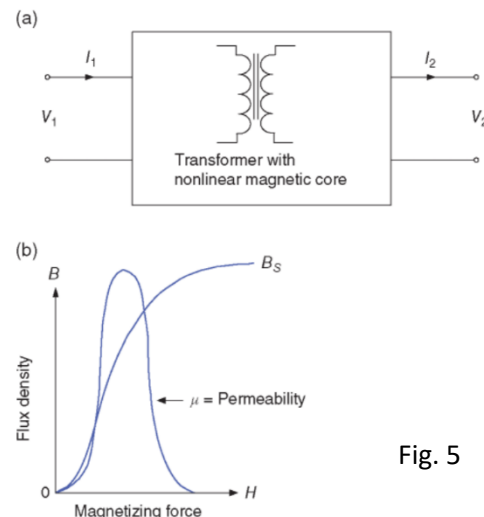

Fig. 5
- * Waveform of primary current (current to be sensed) and accuracy of measurement may get a bit distortion at secondary side due to the nature of nonlinearity of magnetic cores, especially when it is at two extreme sides of flux density level (very large and very small ones). (Fig. 5)